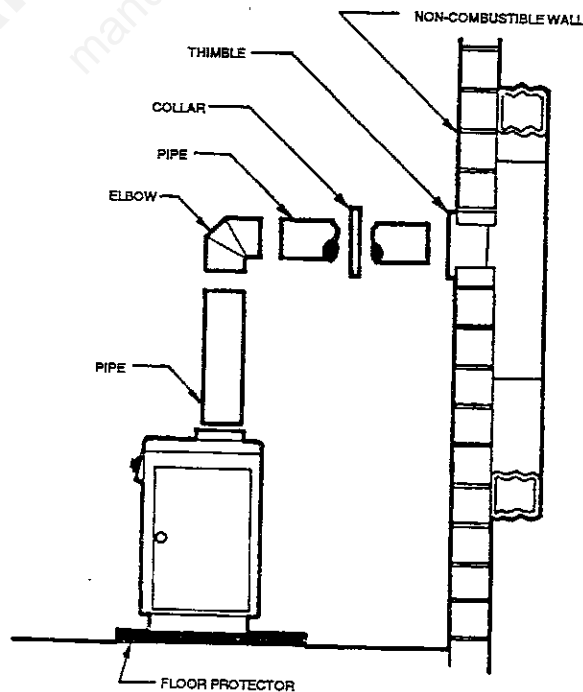

FIG. 5
2. Place the heater on solid masonry or solid concrete. When the heater is used on a combustible floor, use a non-combustible floor protector 3/8" millboard having a thermal conductivity of $K=0.84$ BTU in/ft.² hr. deg. F with 28 gauge sheet metal or a U.L. listed floor protector. Have the floor protector extend 16" beyond the door side of the heater and under the connector pipe in the back (Fig. 5, and 6).
Before using an existing masonry chimney, clean the chimney and inspect the flue liner to be sure it is safe to use. Make repairs before attaching the heater. Look at Fig. 5. The connector pipe and fittings you will need to connect directly to a masonry chimney are shown.